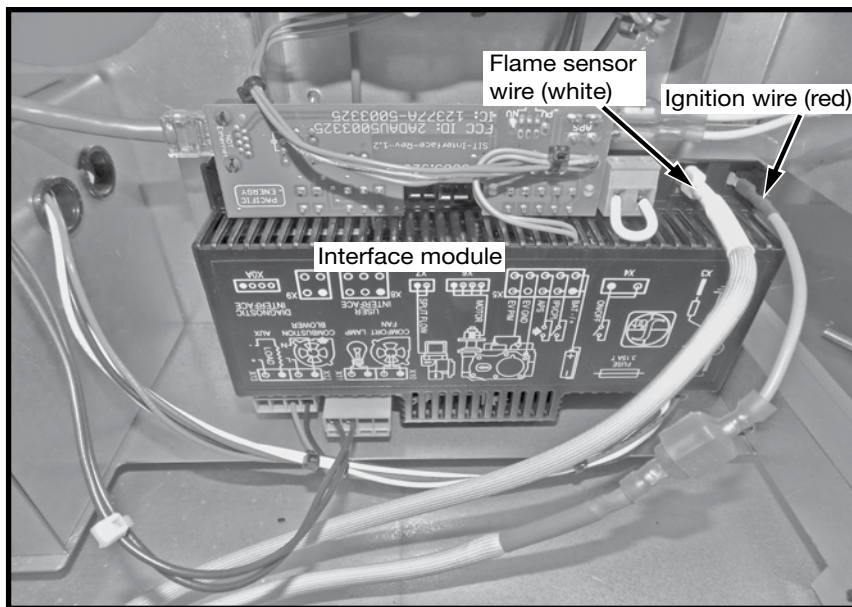

Figure 7: Interface module.
6. Attach the ignition and sensor wires to the interface module as shown in (Figure 7).